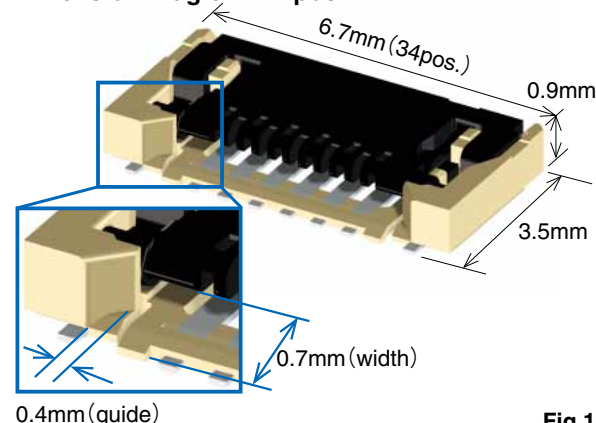

Fig.1
- Space saving design with 0.3mm pitch, 4.0mm width, 0.9mm height (Fig.1).
- Wide guide for easy FPC insertion (Fig.1).
- 7 Fig.1 indicates the lock lever in an open condition. FPC can be extracted by opening the lock lever more than 45°.